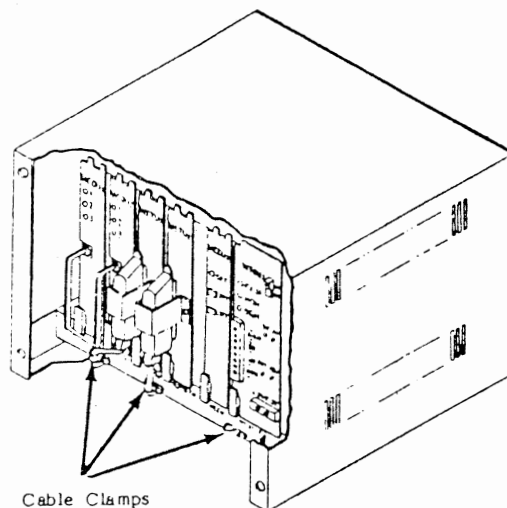

FIGURE 17
07.32 Secure the modular cords to the MKSU shelf (Figure 17) using the plastic cable clamps that are provided.